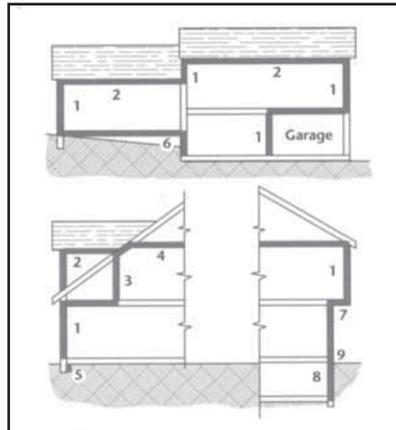

Figure 1
10. Interior walls, ceilings and floors where sound control is desired. (Not shown on Figure 1.)